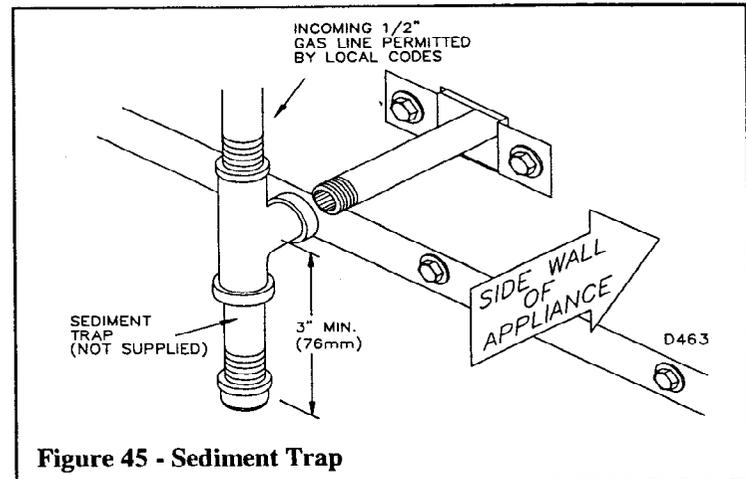

Figure 45 - Sediment Trap
Route a 1/2" NPT GAS LINE towards the appliance coming in from the right. If you wish to route your incoming gas line coming in from the left, remove the gas line conduit sleeve on the right side of the appliance and place it on the left side. It is recommended to route the pipe between the stand of the firebox and the surround of the fireplace (see Figure 45).
- Install a sediment trap between the incoming gas line and the gas control valve (see Figure 45). The sediment trap should extend down the center of the pipe. Refer to your local codes.